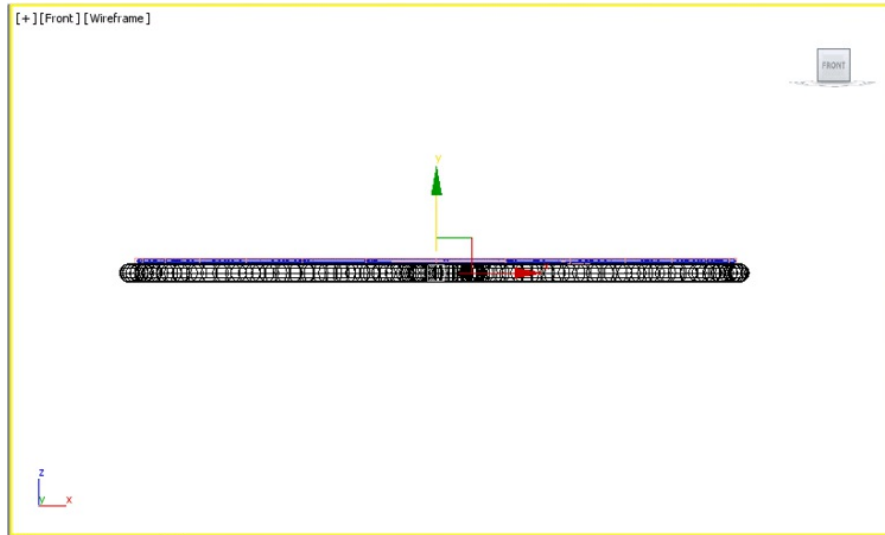

Figure 12-82 Alignment of the *shaft01* at the bottom of the racket head
7. Choose the **Maximize Viewport Toggle** tool and activate the Front viewport. Now, align *shaft01* at the bottom of *racket head*, refer to Figure 12-82.